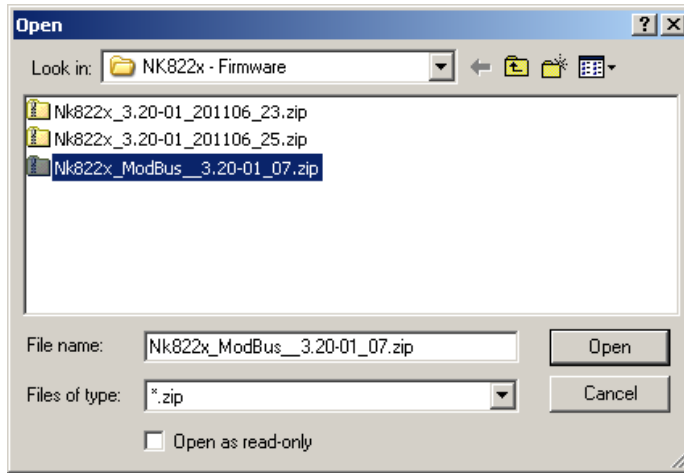

Fig. 19 Opening the new NK82xx firmware files
- And finally click **Open** (Fig. 19).
In case multiple add-on packages have been installed, then all the associated firmware files can be safely downloaded in sequence (each of them being a single additional DLL) as long as the base NK82xx version is the same (e.g. ...**4.10**...). Please check the firmware version in the firmware list (Fig. 19) before selecting the file to download. Also, get informed about latest compatibility issues in the most recent NK8000 Release Notes.